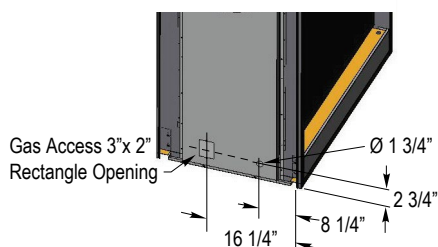

Figure 21. Gas line access.
- See **Figure 21** below for location of gas line access.
When covering the upper metal portion of the fireplace (as shown, Fig. 21) with a non-combustible material, Please **Note:** The decorative facing materials may be subject to temperatures in excess of 250° F. This should be considered when selecting facing materials.